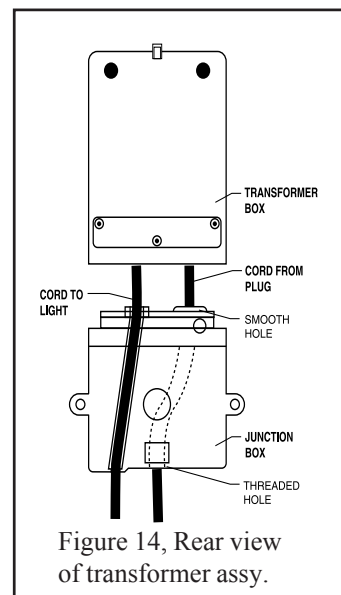

Figure 14, Rear view of transformer assy.
10. Insert the cord from the plug through the smooth hole and then insert the cord through the threaded hole. Slide the cord from the light assembly into the angled slot on the junction box bottom. Make sure the cord by the transformer box starts by the deep end of the angled slot; see Figure 14.